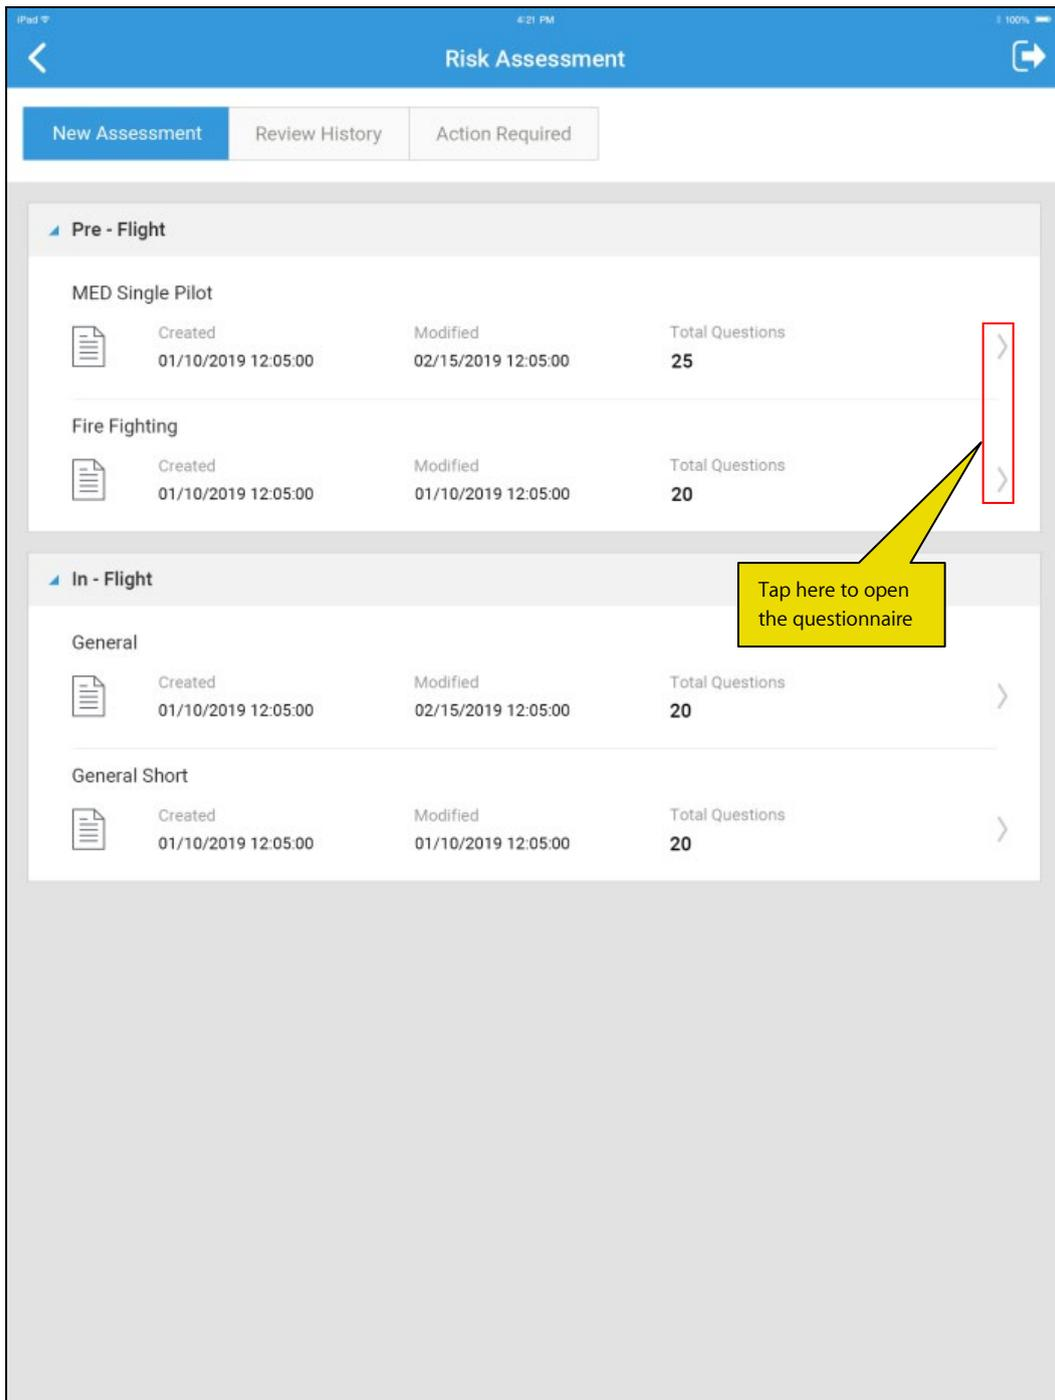

Figure 4.5: The Risk Assessment opening page
2. Tap **New Assessment** to undertake an assessment. The list of Multiple Response Questionnaires followed by Single Response Questionnaires appears. See Figure 4.5.